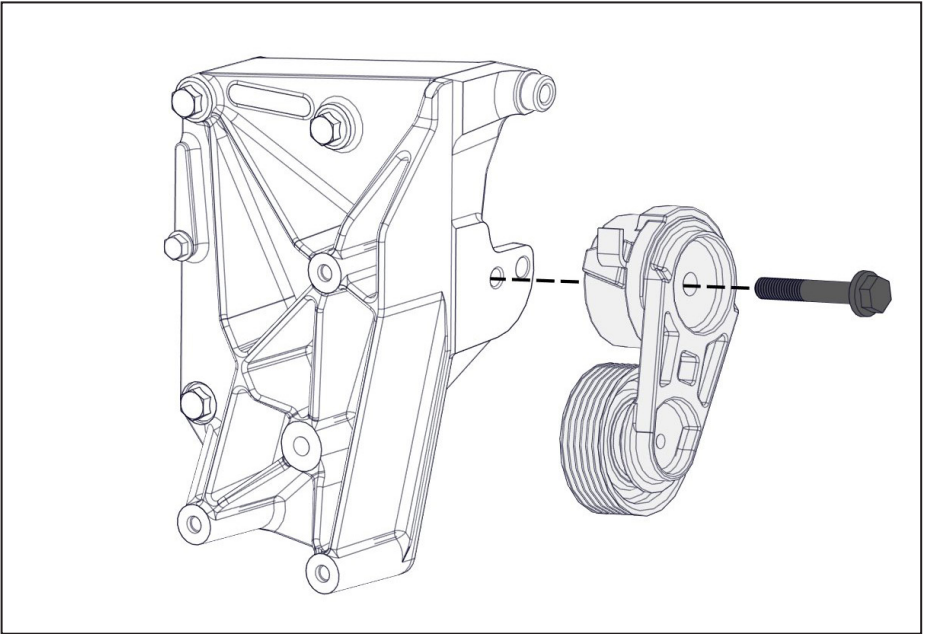

Figure 6 — Install tensioner
- Install the tensioner (Figure 6).